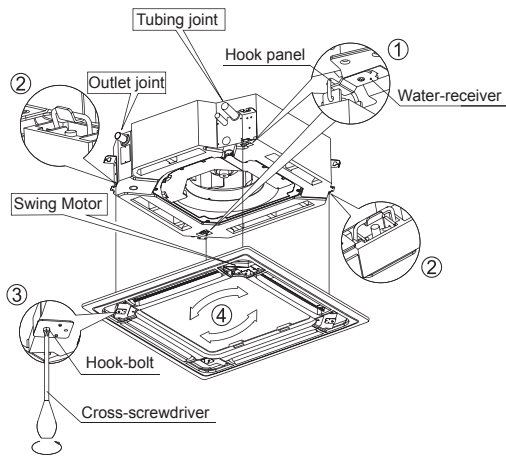

Fig.5-12
- Align the swing motor on the panel to the tubing joints of the body properly. ( Refer to Fig.5-12)